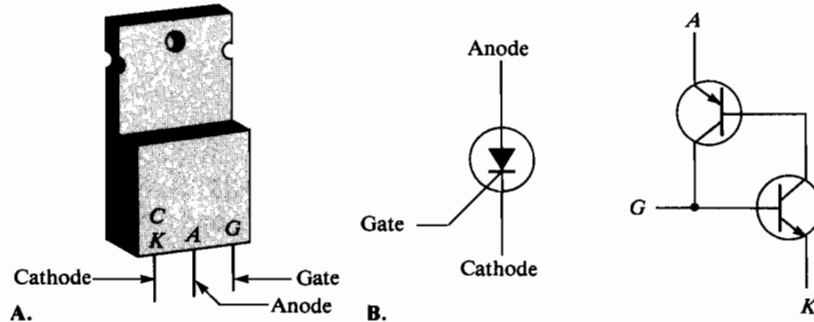

FIGURE 28-1 Pin configuration and diode junction representation of SCR.
2. Using a 2N6397 or equivalent SCR, whose pin diagram and diode junction representation are shown in Figure 28-1, connect the ohmmeter's positive lead to the SCR's anode lead, while the ohmmeter's negative lead is connected to the cathode lead. Measure the resistance, recording this value in Table 28-1.
4. For the circuit of Figure 28-1, once the SCR conducts, the way to turn off the SCR is to
5. As the SCR's conduction angle is increased from 0° to 90° in the circuit of Figure 28-1, the power dissipated by the load resistor